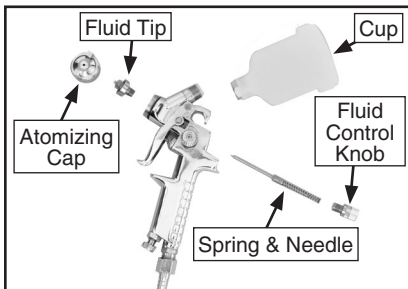

Figure 16. Typical disassembly for cleaning.
5. Unscrew the atomizing cap with your fingers and the fluid tip with the service wrench. The fully disassembled gun should look like **Figure 16**.